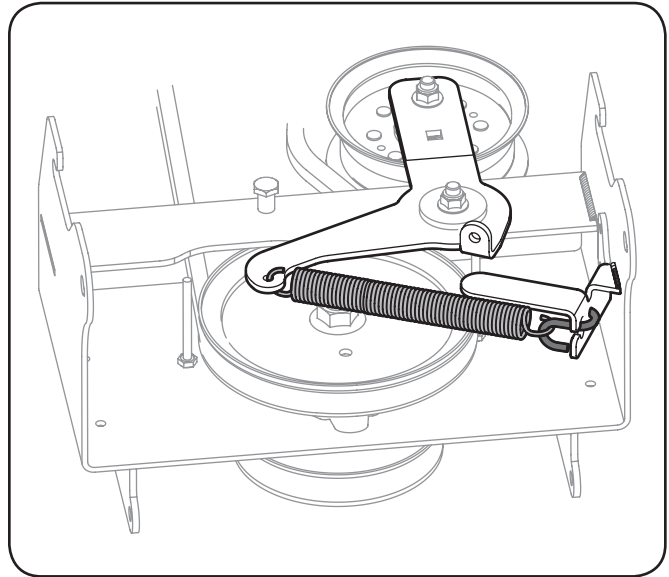

Figure 3-6
- If your tractor is equipped with a **Electric PTO**, attach the 5½" extension spring to the wireform S-hook and then to the carriage idler bracket as show in Figure 3-6.